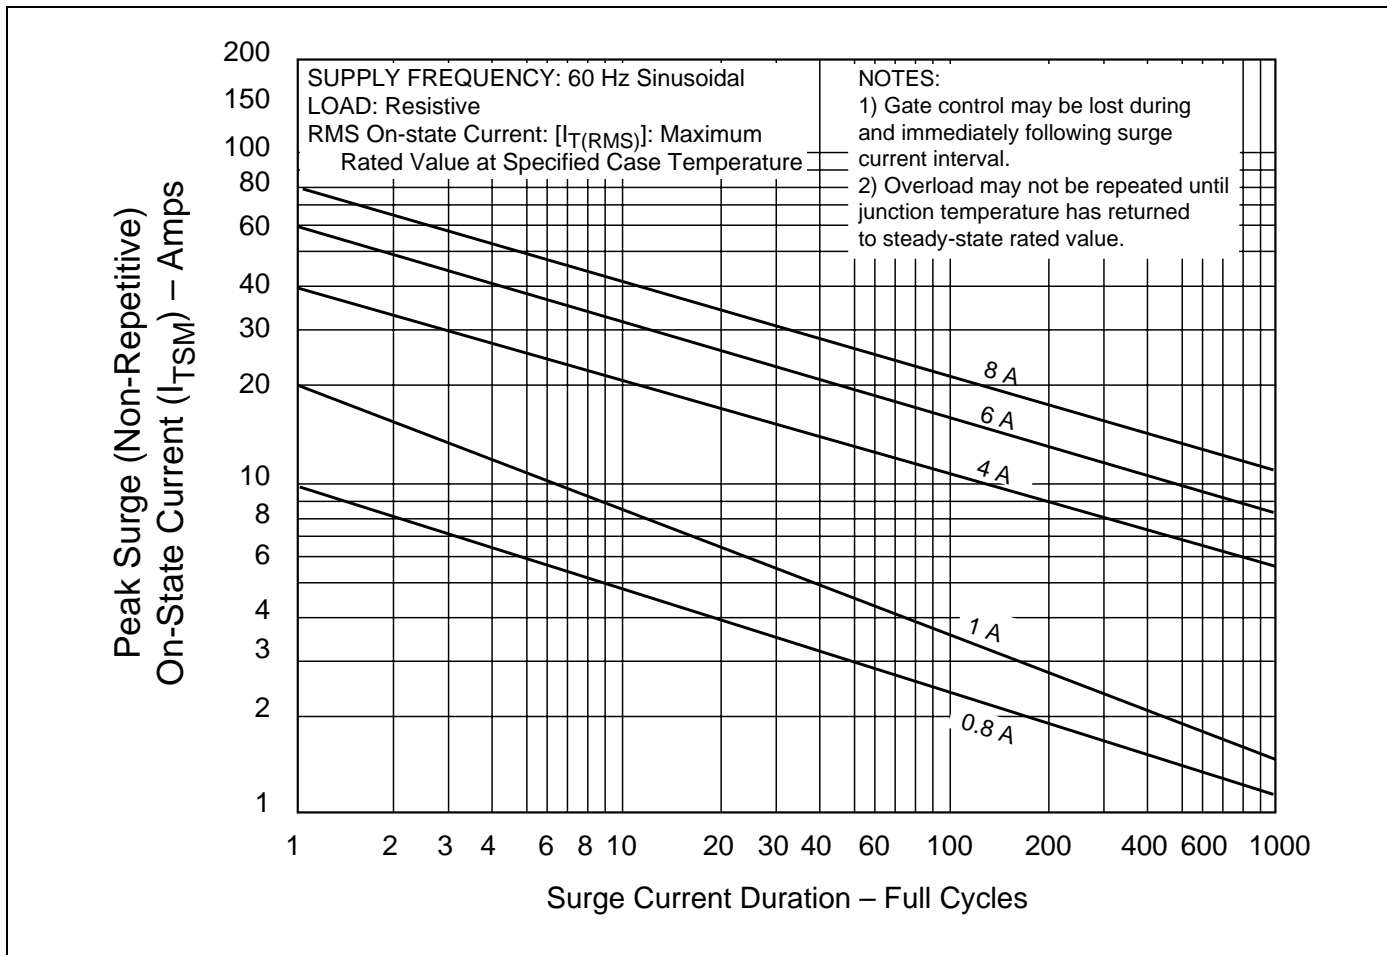

Figure E1.9 Peak Surge Current versus Surge Current Duration
- See Figure E1.9 for surge rating and specific duration.